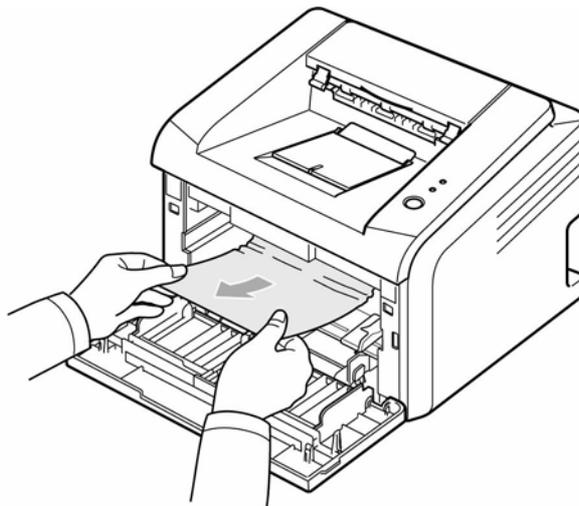

Figure 7
3. Remove the jammed paper by gently pulling it out, Figure 7. If you do not see the jammed paper or if there is any resistance removing the paper, stop pulling and go to the paper exit area.